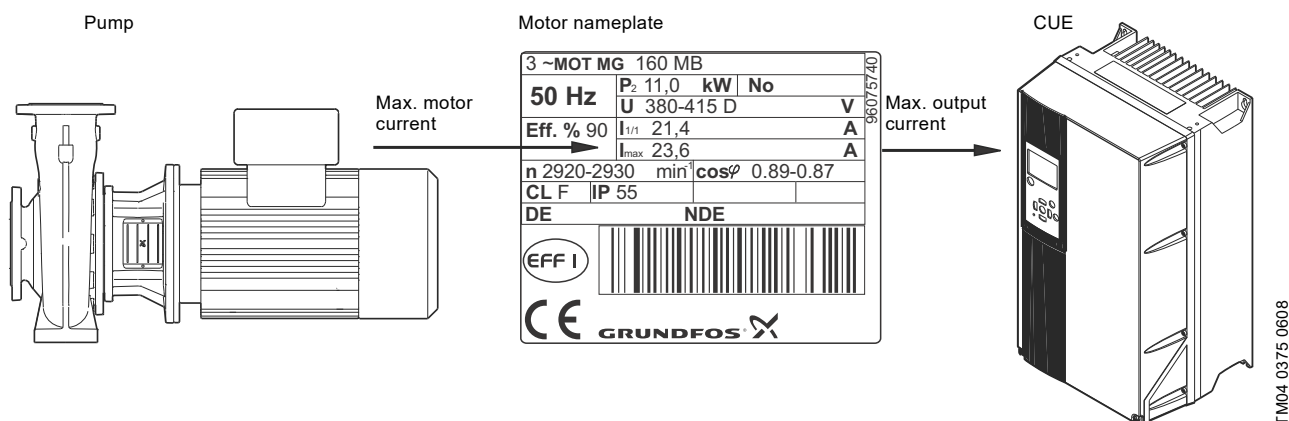

Fig. 56 Selection of CUE based on max. motor current
The rating of CUE is determined quickly and precisely based on the maximum motor current. See fig. 56.
- Maximum motor current is 23.6 A. See fig. 56.